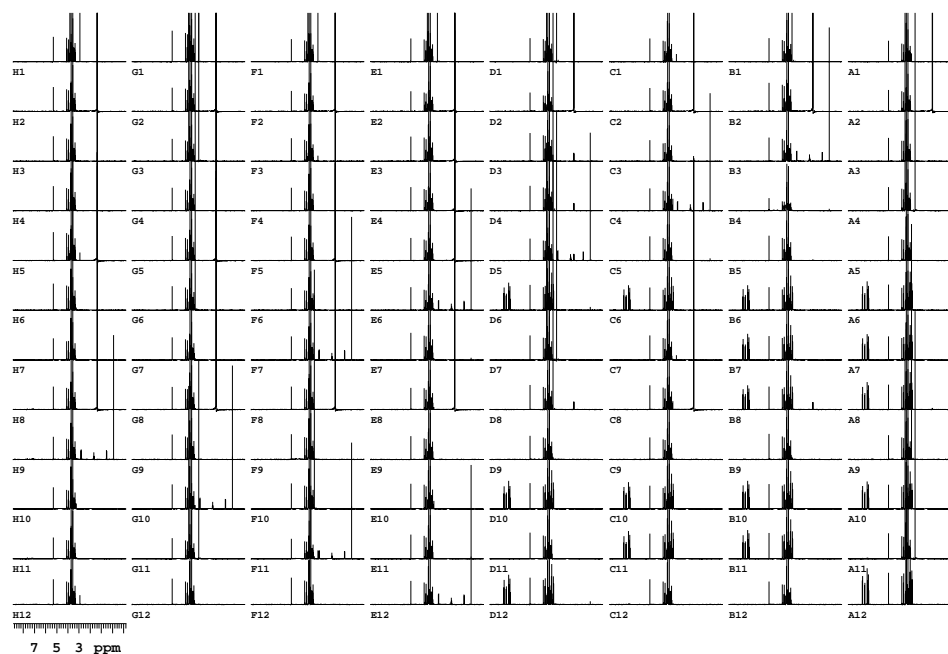

Figure 84. Array of 1D Spectra from a VAST Data Set
Figure 84 shows an array of 96 1D spectra plotted using `plvast` with no arguments.
- 8 x 12 matrix display of the full spectrum of each compound (similar to Figure 84). This display gives you the feeling of the entire plate at once, including perhaps approximate reaction yields, but little specific structural information. Use the `vastglue`, `dsvast`, and `plvast` macros.